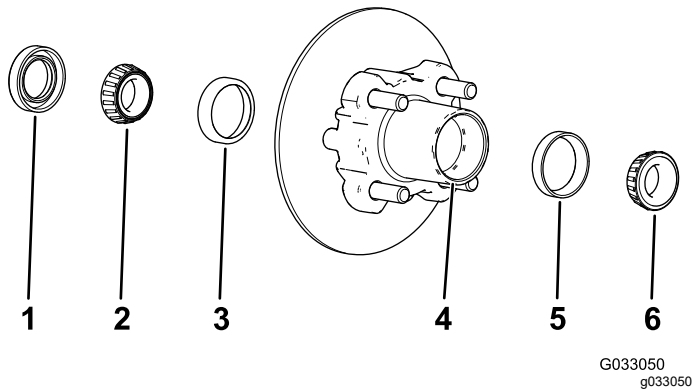

Figure 29
1. Remove the outboard bearing and bearing race from the hub (Figure 29).
2. Remove the seal, inboard bearing from the hub (Figure 29).
5. Clean the cavity of the hub of all grease, dirt, and debris (Figure 29).
7. Fill the cavity of hub 50 to 80% full of the specified grease (Figure 29).
8. Assemble the inboard bearing onto the race at the inboard side of the hub and install the seal (Figure 29).